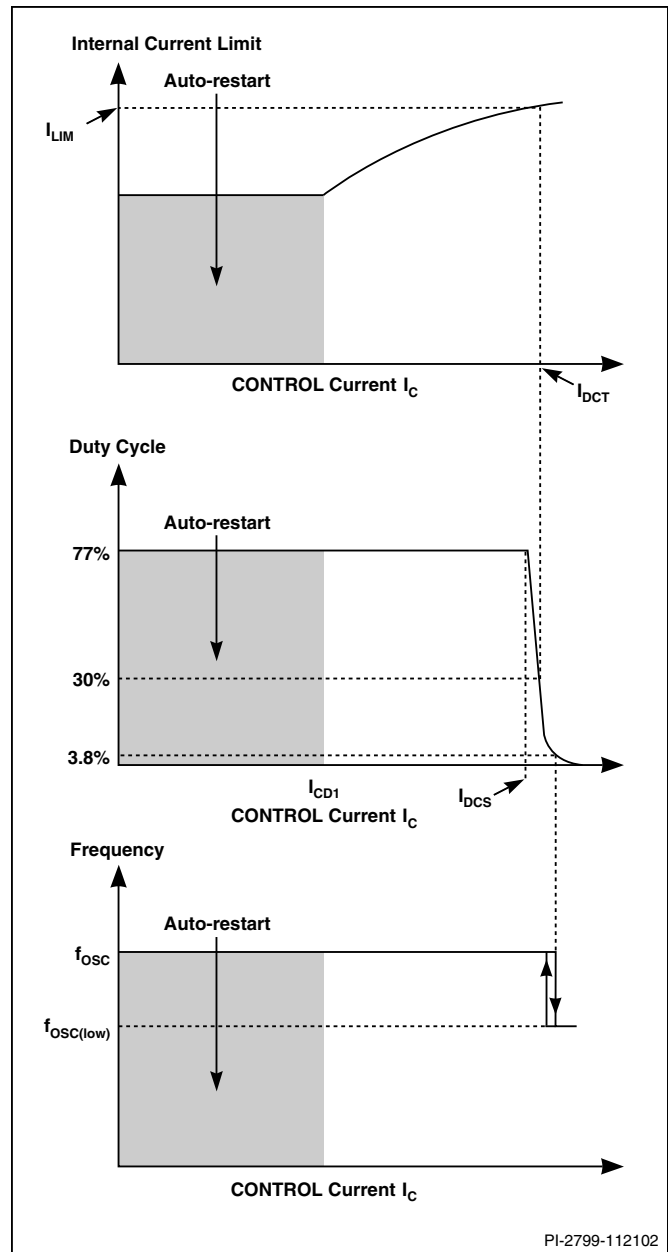
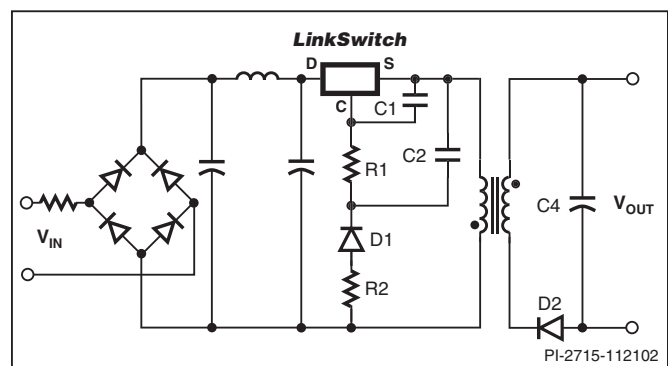
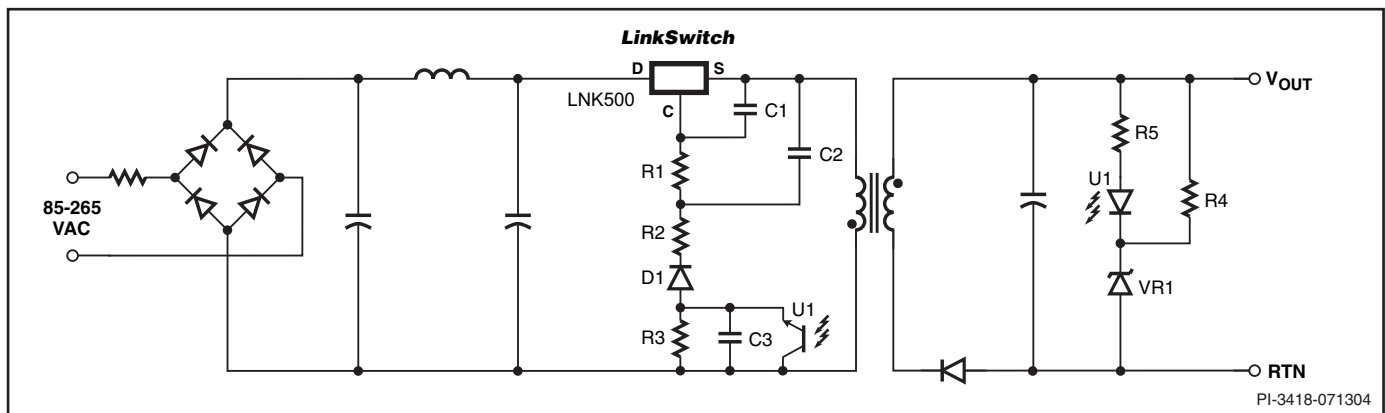

Figure 4. CONTROL Characteristics.
Figure 5. Power Supply Outline Schematic.
Figure 6. Power Supply Outline Schematic with Optocoupler Feedback.
The duty cycle, current limit and operating frequency relationships with CONTROL pin current are shown in Figure 4. Figure 5 shows a typical power supply outline schematic which is used below to describe the *LinkSwitch* operation.
During power up, as V_{IN} is first applied (Figure 5), the CONTROL pin capacitor C1 is charged through a switched high voltage current source connected internally between the DRAIN and CONTROL pins (see Figure 2). When the CONTROL pin voltage reaches approximately 5.6 V relative to the SOURCE pin, the high voltage current source is turned off, the internal control circuitry is activated and the high voltage internal MOSFET starts to switch. At this point, the charge stored on C1 is used to supply the internal consumption of the chip.
As the output voltage, and therefore the reflected voltage across the primary transformer winding ramp up, the feedback CONTROL current I_C increases. As shown in Figure 4, the internal current limit increases with I_C and reaches I_{LIM} when I_C is equal to I_{DCT} . The internal current limit vs. I_C characteristic is designed to provide an approximately constant power supply output current as the power supply output voltage rises.
When I_C exceeds I_{DCS} , typically 2 mA (Figure 4), the maximum duty cycle is reduced. At a value of I_C that depends on power supply input voltage, the duty cycle control limits *LinkSwitch* peak current below the internal current limit value. At this point the power supply transitions from CC to CV operation. With minimum input voltage in a typical universal input design, this transition occurs at approximately 30% duty cycle. Resistor R1 (Figure 5) is therefore initially selected to conduct a value of I_C approximately equal to I_{DCT} when V_{OUT} is at the desired value at the minimum power supply input voltage. The final choice of R1 is made when the rest of the circuit design is complete. When the duty cycle drops below approximately 4%, the frequency is reduced, which reduces energy consumption under light load conditions.
Figure 6 shows a typical power supply outline schematic using *LinkSwitch* with optocoupler feedback to improve output voltage regulation. On the primary side, the schematic differs
from Figure 5 by the addition of R3, C3 and optocoupler U1. R3 forms a potential divider with R1 to limit the U1 collector emitter voltage.
The feedback configuration in Figure 6 is simply a resistive divider made up of R1 and R3 with D1, R2, C1 and C2 rectifying, filtering and smoothing the primary winding voltage signal. The optocoupler therefore effectively adjusts the resistor divider ratio to control the DC voltage across R1 and therefore, the feedback current received by the *LinkSwitch* CONTROL pin.
When the power supply operates in the constant current (CC) region, for example when charging a battery, the output voltage is below the voltage feedback threshold defined by U1 and VR1 and the optocoupler is fully off. In this region, the circuit behaves exactly as previously described with reference to Figure 5 where the reflected voltage increases with increasing output voltage and the *LinkSwitch* internal current limit is adjusted to provide an approximate CC output characteristic. Note that for similar output characteristics in the CC region, the value of R1 in Figure 5 will be equal to the value of R1 + R3 in Figure 6.
When the output reaches the voltage feedback threshold set by U1 and VR1, the optocoupler turns on. Any further increase in the power supply output voltage results in the U1 transistor current increasing, which increases the percentage of the reflected voltage appearing across R1. The resulting increase in the *LinkSwitch* CONTROL current reduces the duty cycle according to Figure 4 and therefore, maintains the output voltage regulation.
The extent to which R3 can be increased is limited by opto transistor voltage and dissipation ratings and should be fully tested before finalizing a design. The values of C2 and C3 are less important other than to make sure they are large enough to have very little influence on the impedance of the voltage division circuit set up by R1, R3 and U1 at the switching frequency. Normally, the values of C2 and C3 in Figure 6 are chosen equal to the value of C2 in Figure 5, though the voltage rating may be reduced depending on the relative values of R1 and R2 discussed above. See Applications section for typical values of components.
The output voltage load variation can be improved across the whole load range by adding an optocoupler and secondary reference (Figure 6). The secondary reference is designed to only provide feedback above the normal peak power point voltage to maintain the correct constant current characteristic.
The schematic shown in Figure 5 outlines the key components needed for a *LinkSwitch* supply.
Since the SOURCE pins in a *LinkSwitch* supply are switching nodes, the copper area connected to SOURCE together with C1, C2 and R1 (Figure 5) should be minimized, within the thermal constraints of the design, to reduce EMI coupling.